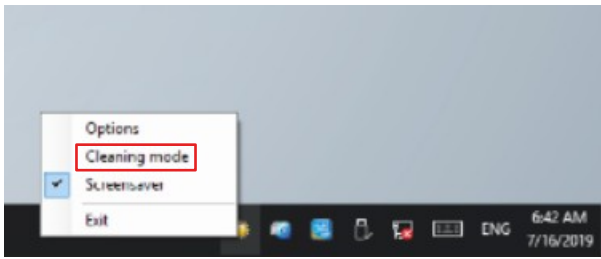

Fig. 10: CP77xx_Select "Cleaning Mode"
3. Select the "Cleaning Mode" (see Fig. 10).